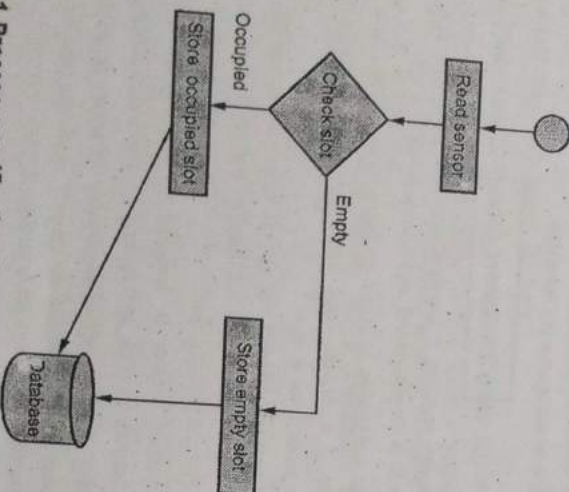

Fig. Q.5.1 Process specification for smart parking IoT system
- Local controller collect the information and send to server using Internet. Fig. Q.5.1 shows process specification for smart parking IoT system.